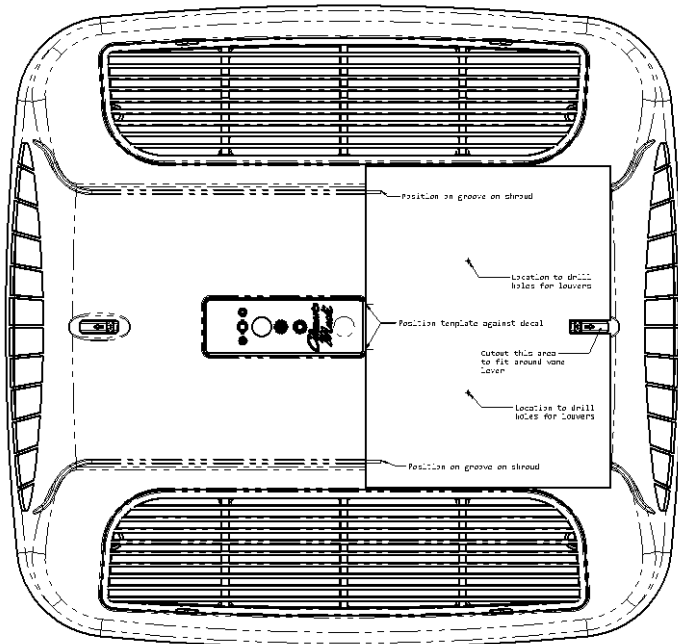

Figure 2
3. Cut out the supplied ceiling shroud template and place it on the ceiling assembly shroud as shown in **Figure 2** and **Figure 3**.